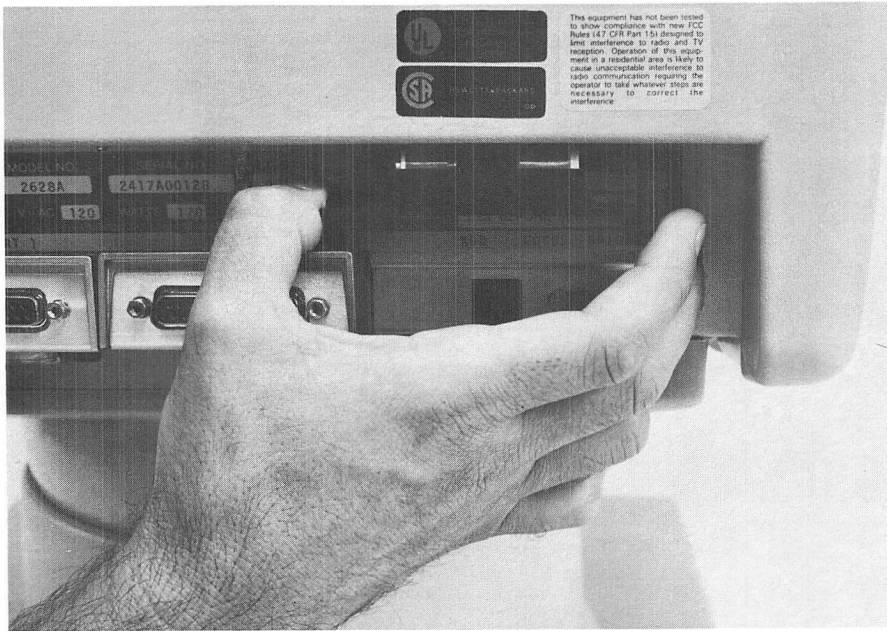

Figure 11-4. Battery Replacement
- Step 2. Refer to figure 11-4. Squeeze the tabs toward the center of the battery support with enough pressure to disengage the flanges which hold the battery support in place. Pulling down frees the battery support from the terminal.